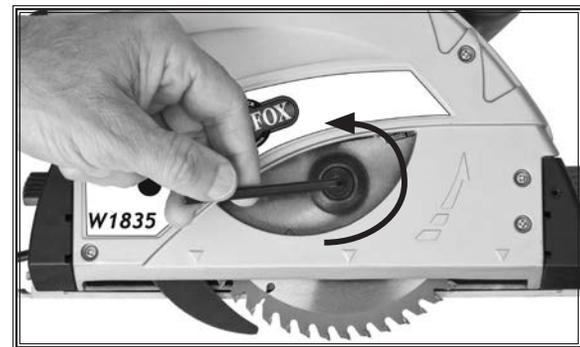

Figure 10. Loosening arbor bolt.
3. With your free hand, turn the arbor bolt counterclockwise with a 5mm hex wrench to loosen it, as shown in **Figure 10**.